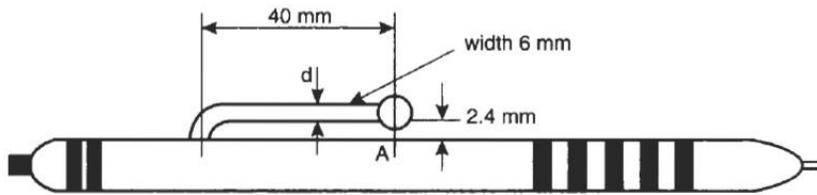

Fig 1
- A ball-point pen made from polypropylene has the clip design shown in Fig.1. When the pen is inserted into a pocket, the clip is subjected to a deflection of 2 mm at point A. If the limiting strain in the material is to be 0.5% calculate (i) a suitable thickness, d , for the clip